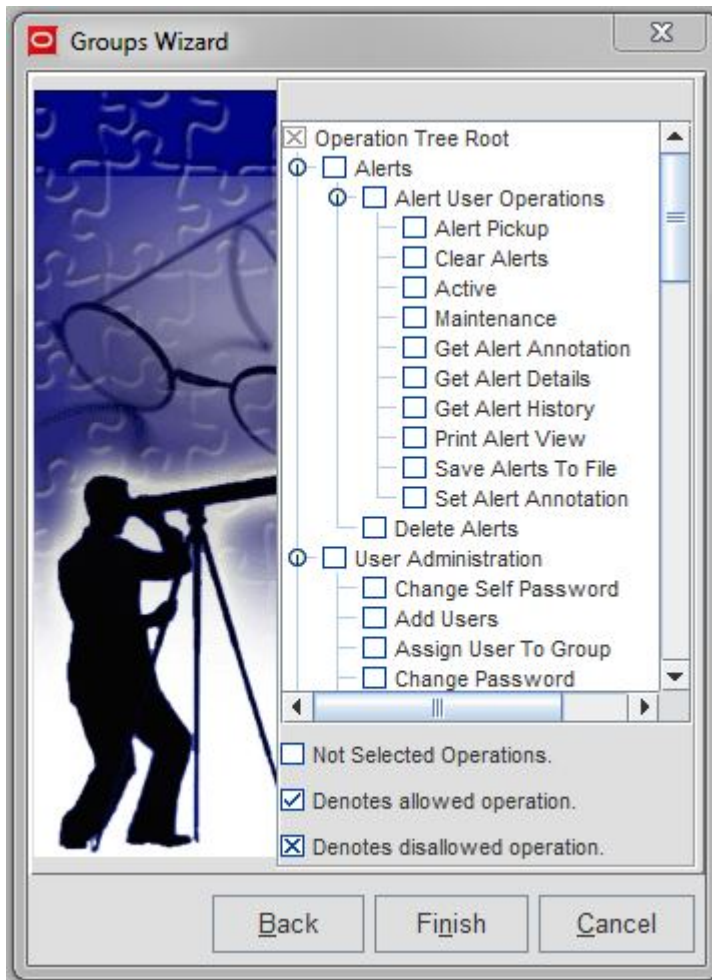

Figure 105: Usergroup Attributes
3. Click the **Next** button. A page similar to Figure 105: Usergroup Attributes is displayed.